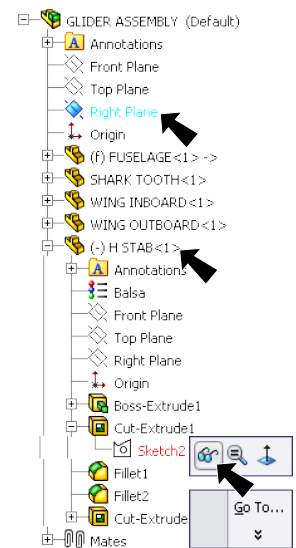

Fig. 60
Step 2. Expand the Design Tree in the top left corner of the graphics area and click **Right Plane** , **Fig. 60**.
Step 3. Expand **H STAB** and expand **Cut-Extrude-1**. **Right click Sketch2** and **Show**  on the Content menu, **Fig. 60**.